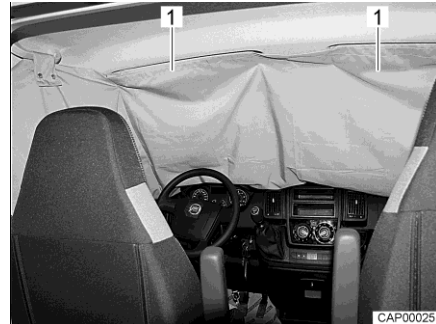

Fig. 20 Cabin black-out shade on windscreen
- Push pockets (Fig. 20,1) of cabin black-out shade over the two sun visors.